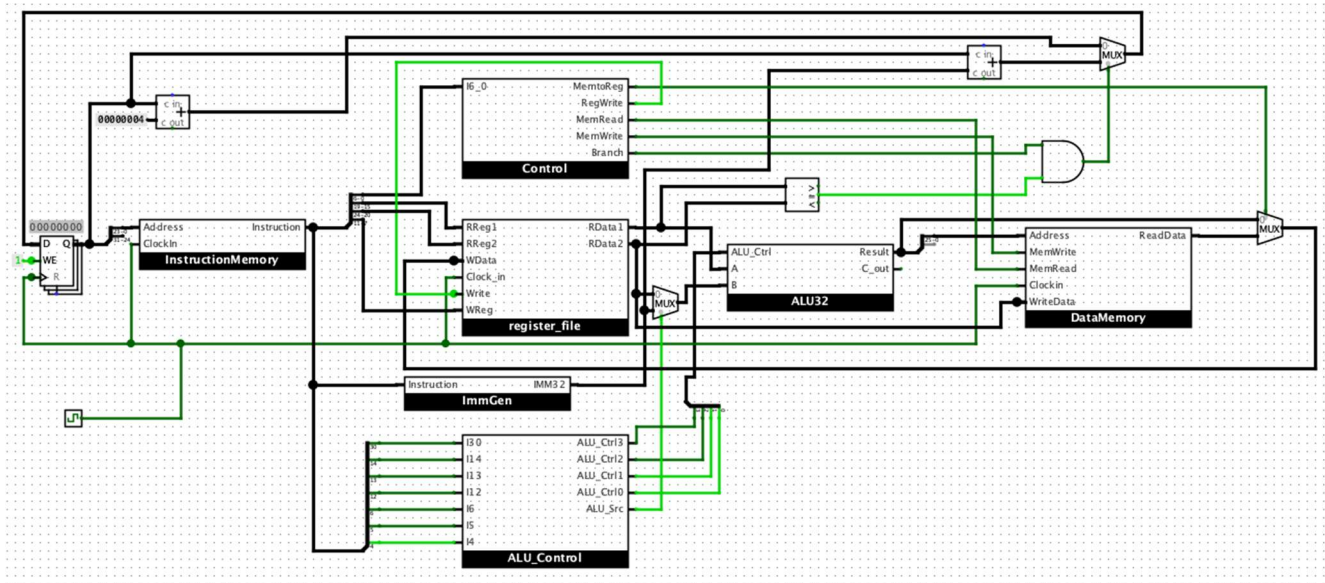

Figure 1. Completed processor for the required subset of RISC-V RV32I instructions
- Connect all your components from Labs 3 and 4 so that you have a working simulation of a RISC-V processor that implements our chosen subset of RISC-V RV32I instructions (and, or, xor, add, sub, andi, ori, xori, addi, lw, sw, beq). When finished, your lab4 circuit should look similar to the circuit shown in Figure 1.